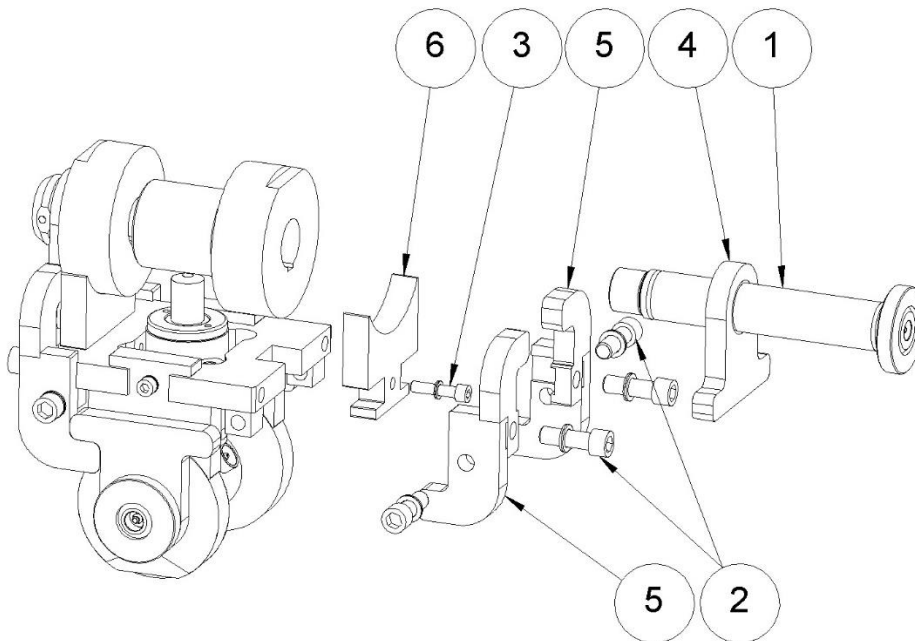

Figure 11. Replacement of brake pads
3. Remove the axle (No. 1, Fig. 11) and remove the bearing lugs (4).
5. Open the screws (2) and remove the supports (5).
6. The brake pad (No. 6) is released when removing the screw (3). Pull the old Brake Pad from the frame hinge and replace it with a new one.